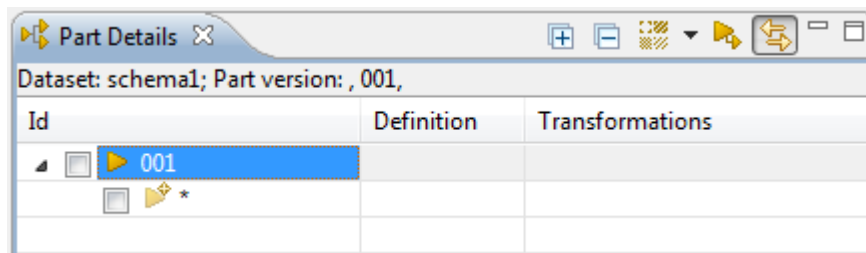

Figure 2. Created root node
- Enter an applicable identifier for a part definition into **Id** column and press **Enter** key. The root node is created (see Figure 2).